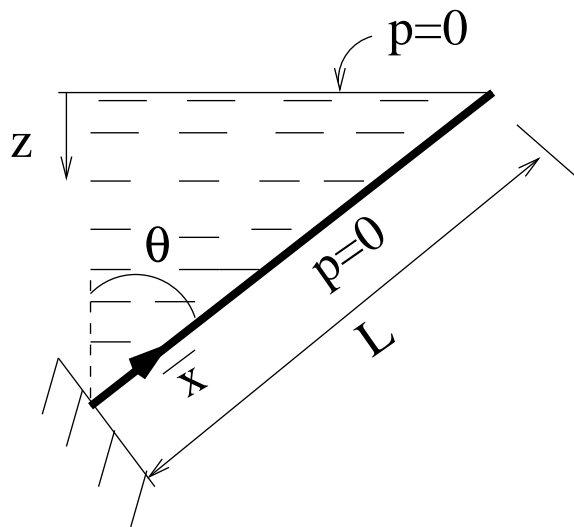

Figure 5: Problem 5.
5. We saw in the test for the problem shown in Fig. 5 that the pressure is given by $p = \rho g z$, where ρ is the density of the fluid and g is the gravitational acceleration. Assume the width of the beam into the paper as unity. Using the relation (20)
find the deflection of the cantilever beam shown in Fig. 5 in a direction perpendicular to \bar{x} , and as a function of \bar{x} . *Do not use any other method for finding the deflection.*